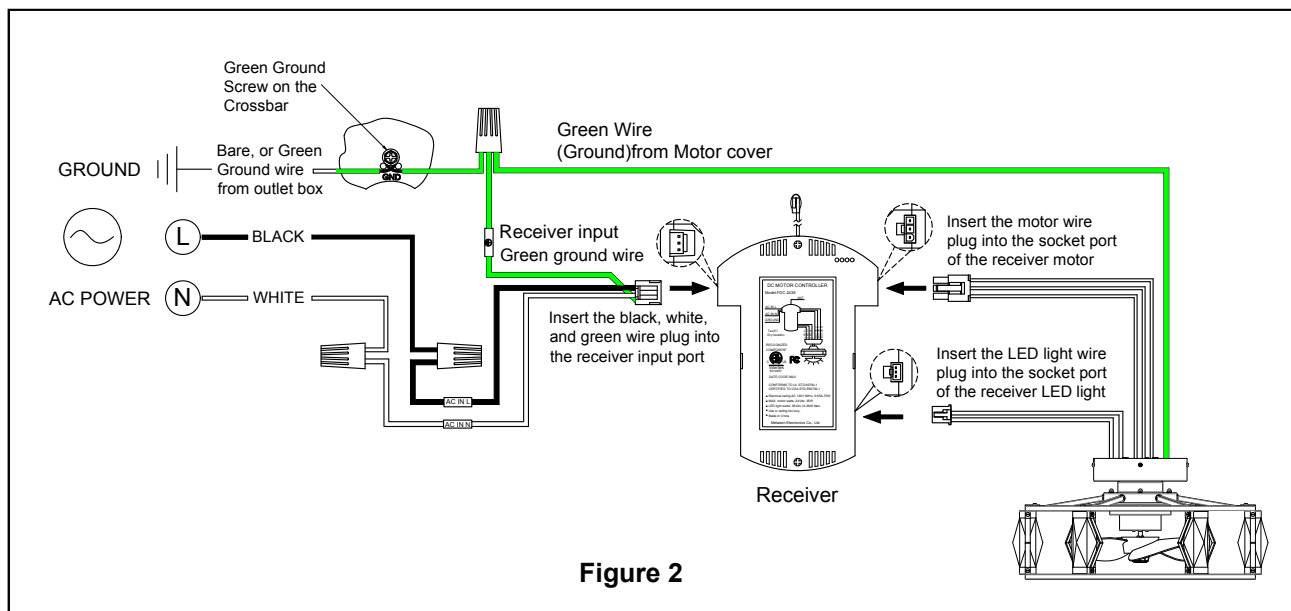

Figure 2
Your new ceiling fan will require a grounded electrical supply line of 120 volts AC, 60 Hz, 15 Amp Circuit. Electrical code requires use of a fan-rated outlet box to support the extra weight and motion associated with a ceiling fan. A fan-rated box will be labeled as such and typically supports up to a 70lbs ceiling fan. Fan-Rated Outlet Boxes vary in ratings and design. Ensure the ratings of your ceiling fan outlet box meet the requirements for the ceiling fan being installed. Figure 1, Figure 2 and Figure 3 depicts different structural configurations that may be used for mounting the outlet box.
Deep-profile use (Figure 2)
The fan must be hung with at least 7 ft. clearance from floor to ceiling fan. (Figure 2)
(Figure 2)
- ❑ Restore electrical power to the outlet box by turning the electricity on at the main fuse box. (Figure 2)